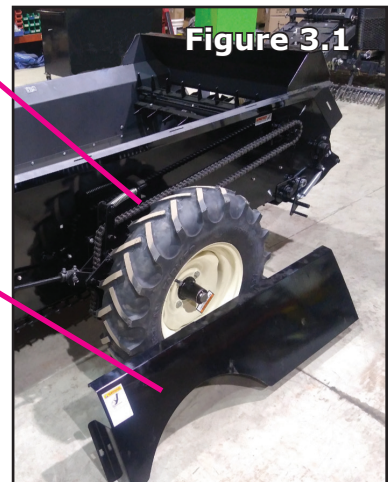

Figure 3.1
1. Remove the left chain guard using a 9/16" wrench (or socket set) before laying the End Gate on the spreader (**Figure 3.1**).